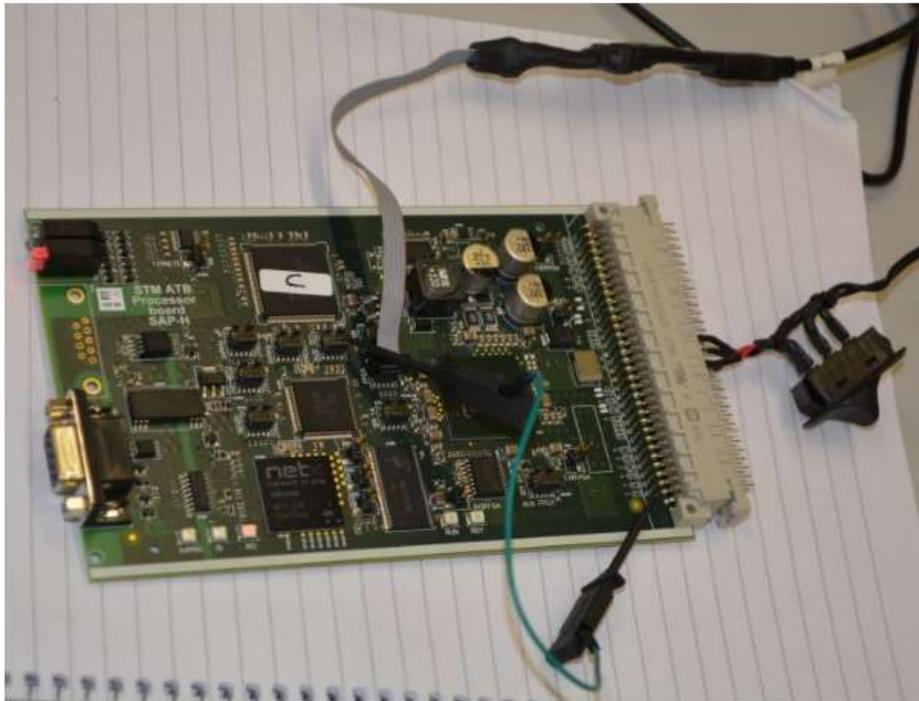

Figure 47: Hardware connections for loading the software on the FPGA processor [Figure 2235A <<vervangen>>]
- Using the JLink cable connector (Figure 47,  STMA-69278);